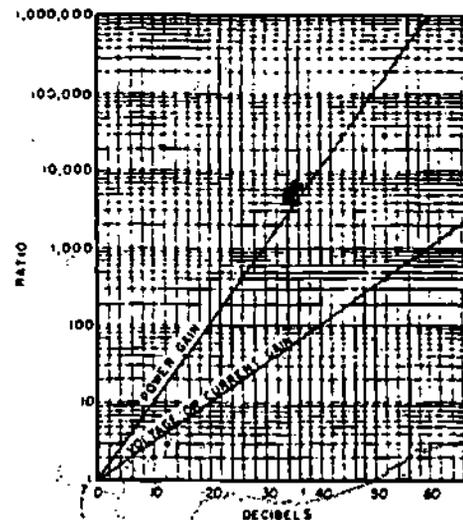

Figure 8
19. Voltage and power ratios, or gains, can be easily converted to their equivalent decibel (dB) value by the use of charts and/or graphs. Figure 8 shows a typical dB chart and graph.
Using either the dB chart or dB graph in Figure 8, find the decibel conversions for the following voltage and power ratios: